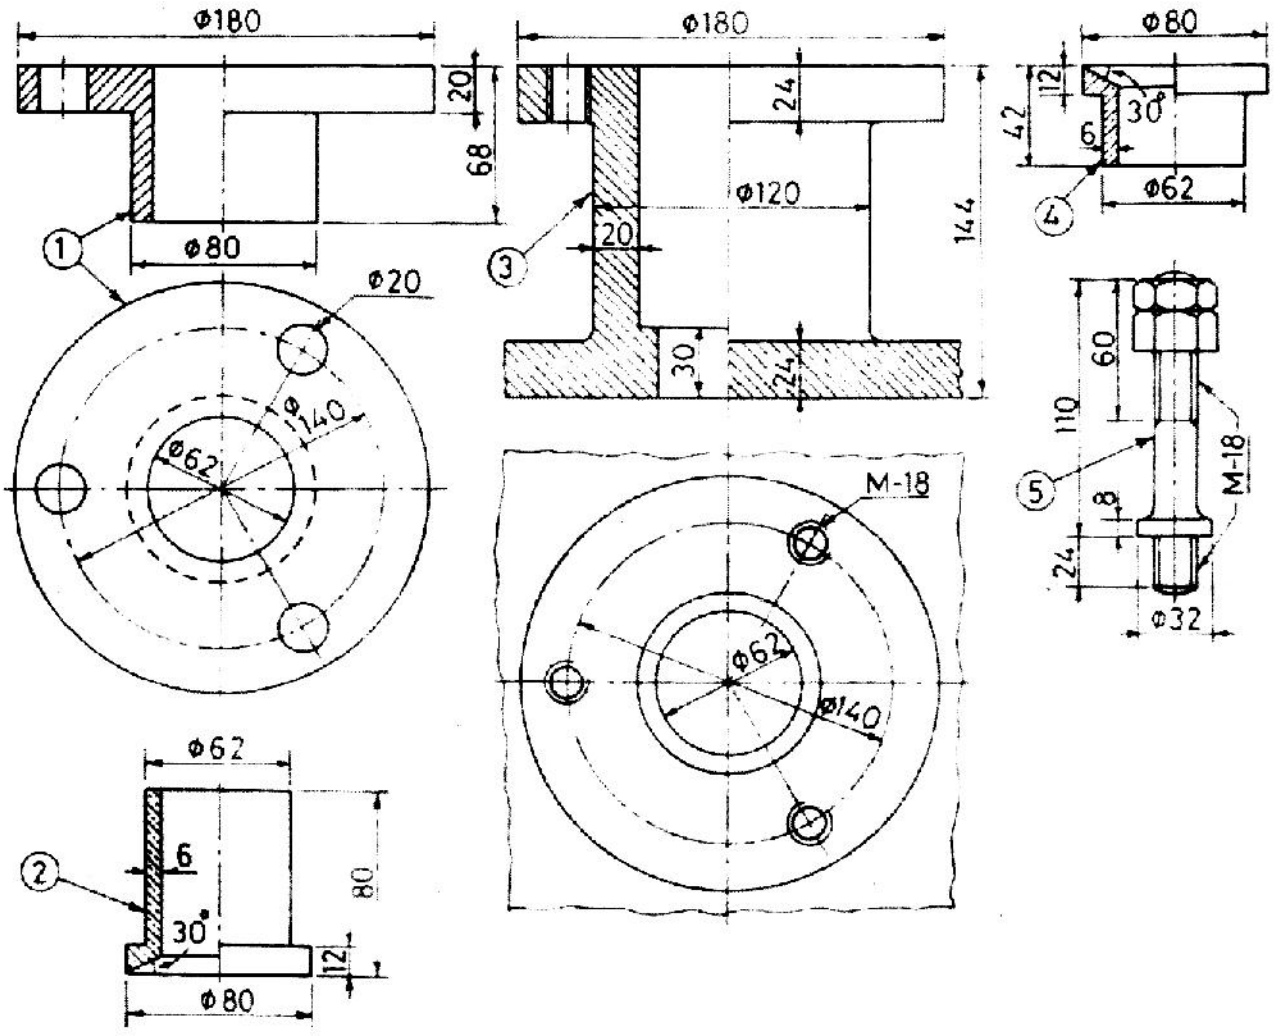

Fig. Q3
3. Details of a stuffing box are given in Fig. Q3 Draw the following views of the stuffing box with all parts assembled together and showing the piston rod in position: i) Sectional front view and ii) Top view. 70